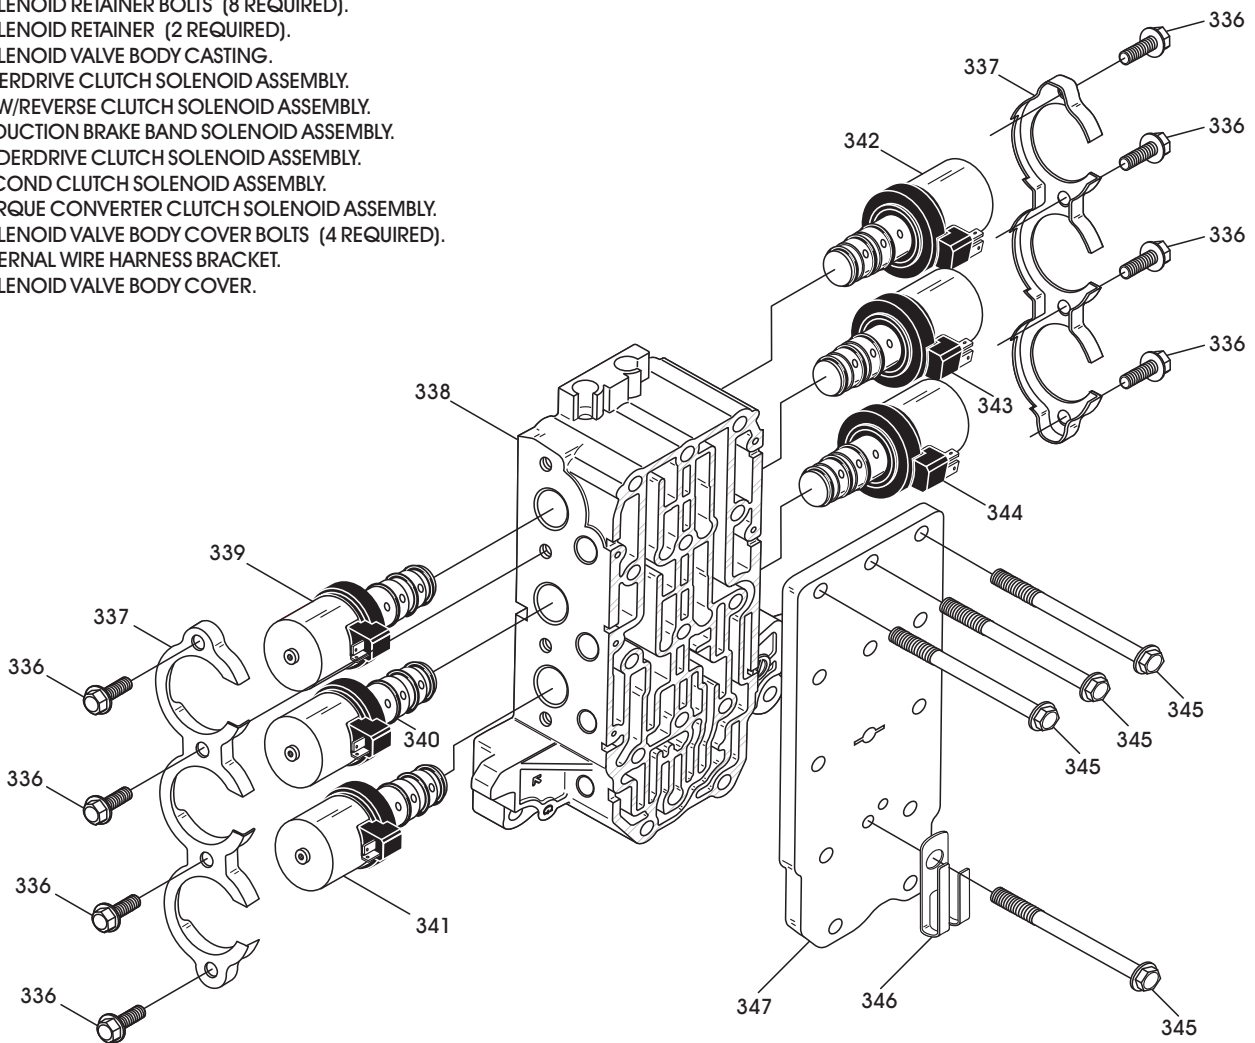

Figure 214
14. The overdrive, low/reverse, reduction band, 2nd clutch, underdrive and the TCC solenoids are all the same, and will interchange in any of their positions (See Figure 214).
19. Install all of the solenoid assemblies into the locations shown in Figure 214.